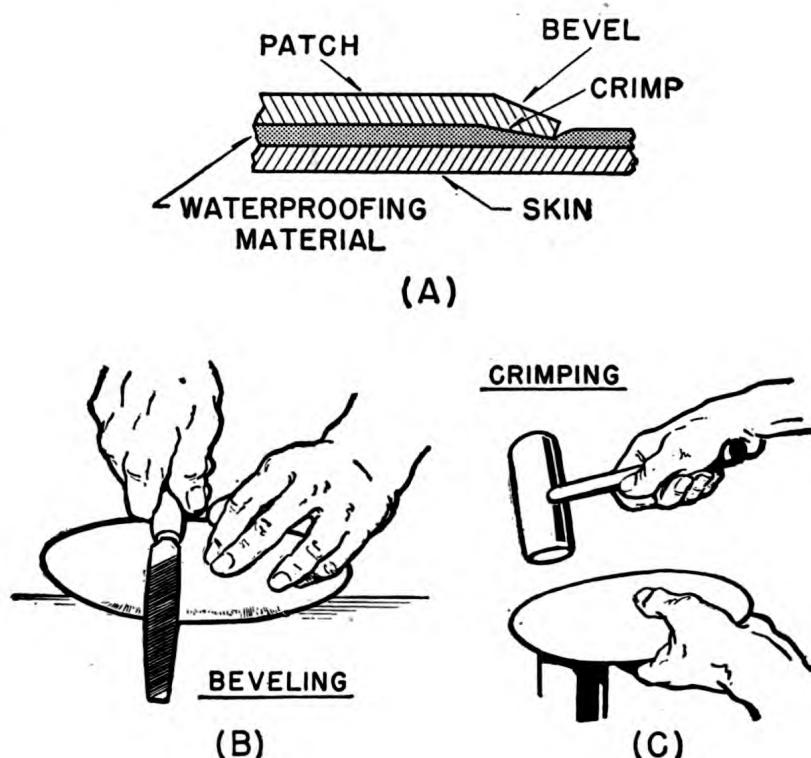

Figure 118.—Crimping and beveling.
You should bevel the edges of the lap patch down to approximately HALF the metal thickness. The edges should also be crimped to about  $15^\circ$  to provide a tighter fit for the patch. You can do the crimping on either a crimping machine or with a mallet. Do the beveling with a file. Figure 118 (A) shows the assembled patch while (B) and (C) show how beveling and crimping are done.